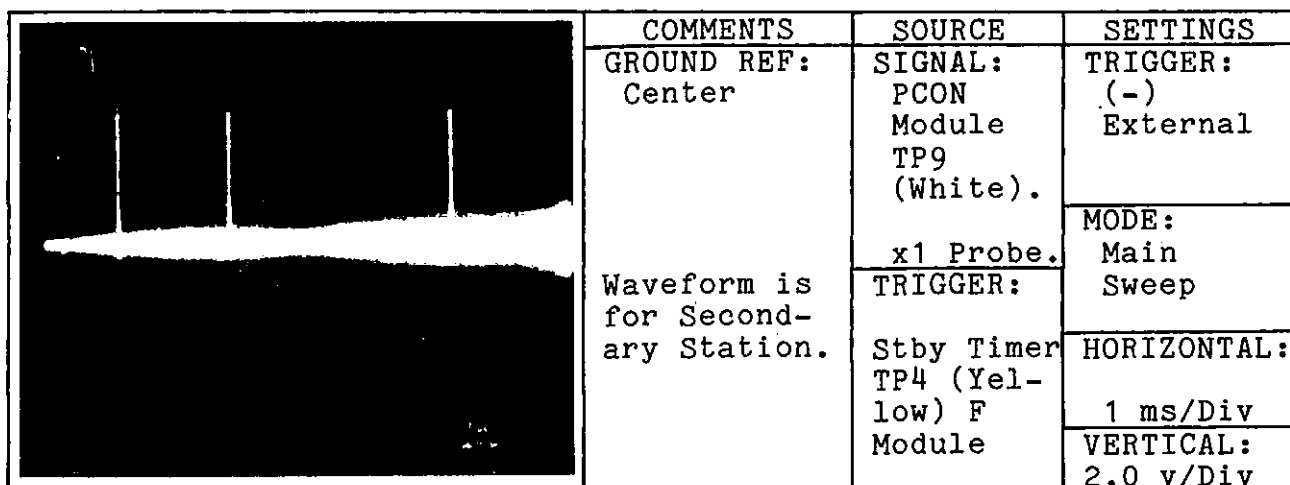

Figure 5.44. Phase Code Set Waveform (Negative Slope Triggered)
4. (A) PHASE CODE SET FIGURES 5.44 AND 5.45.